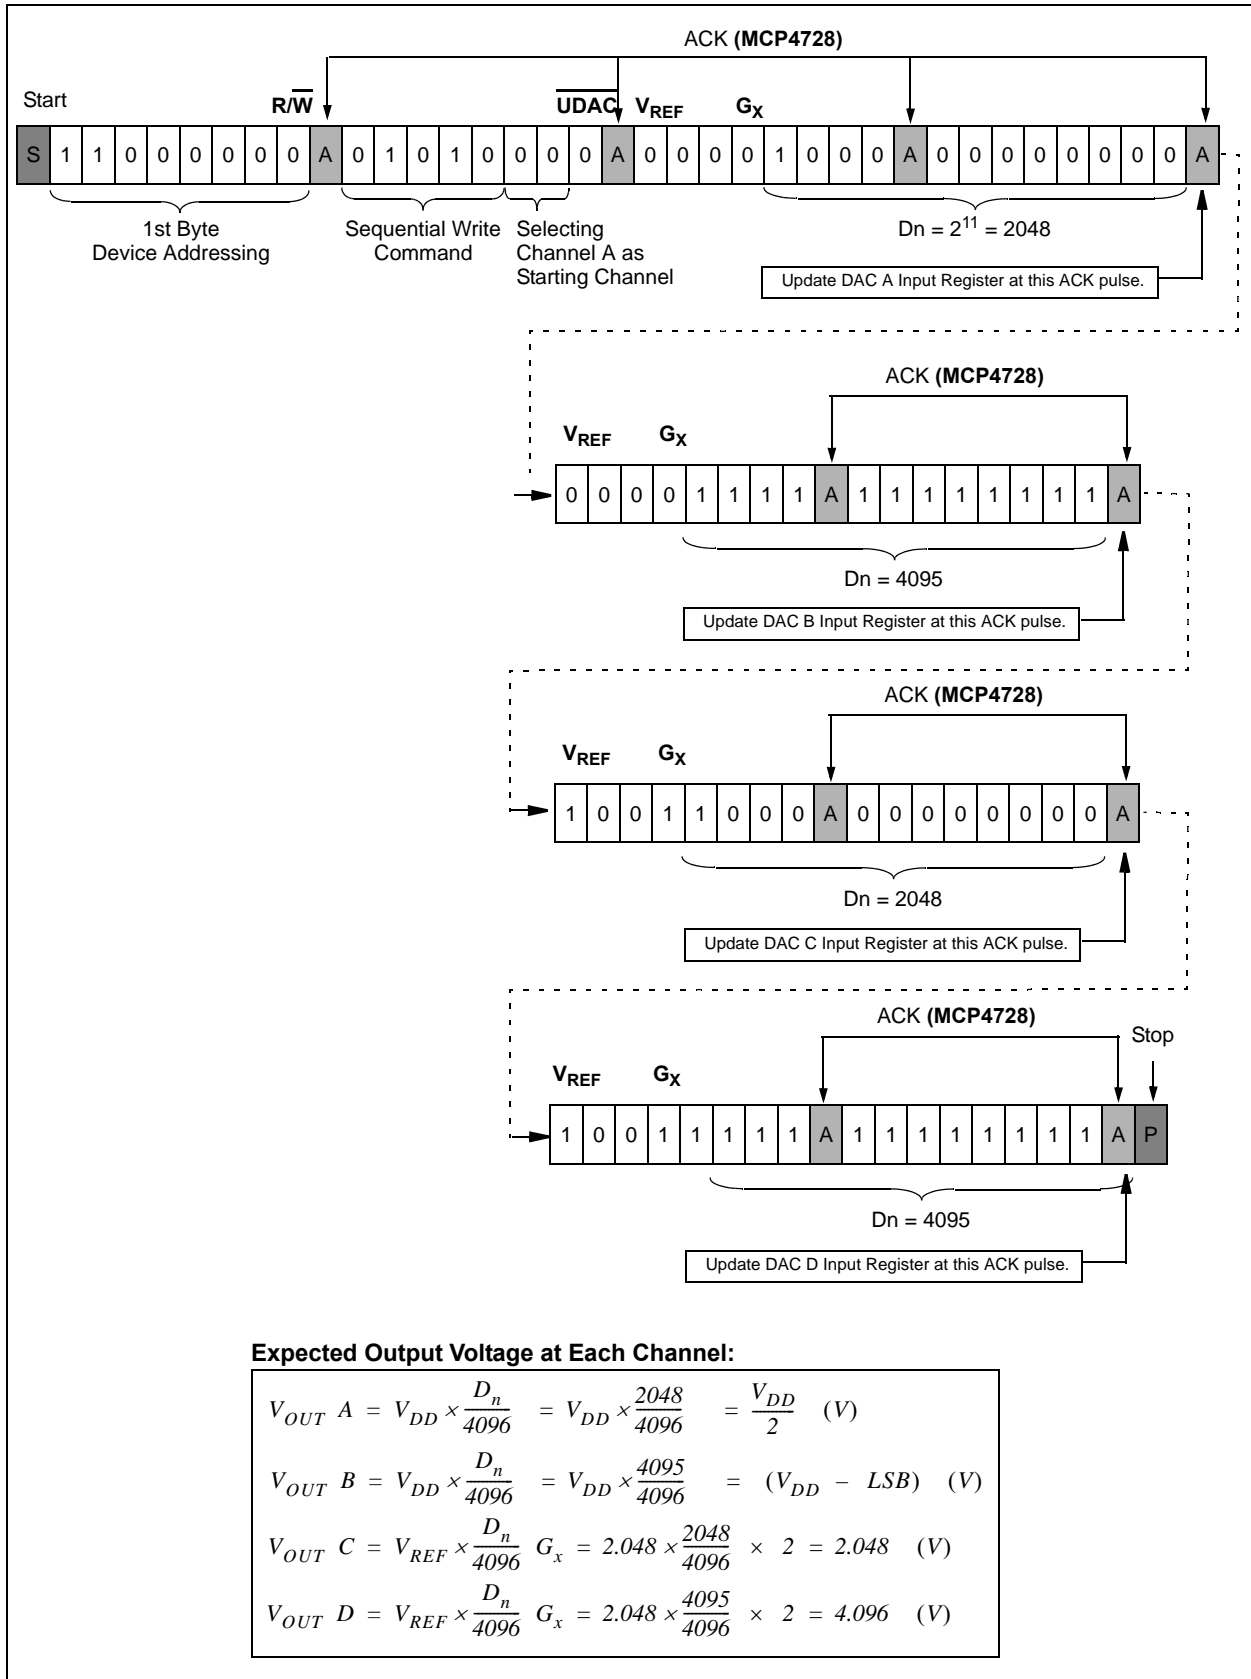
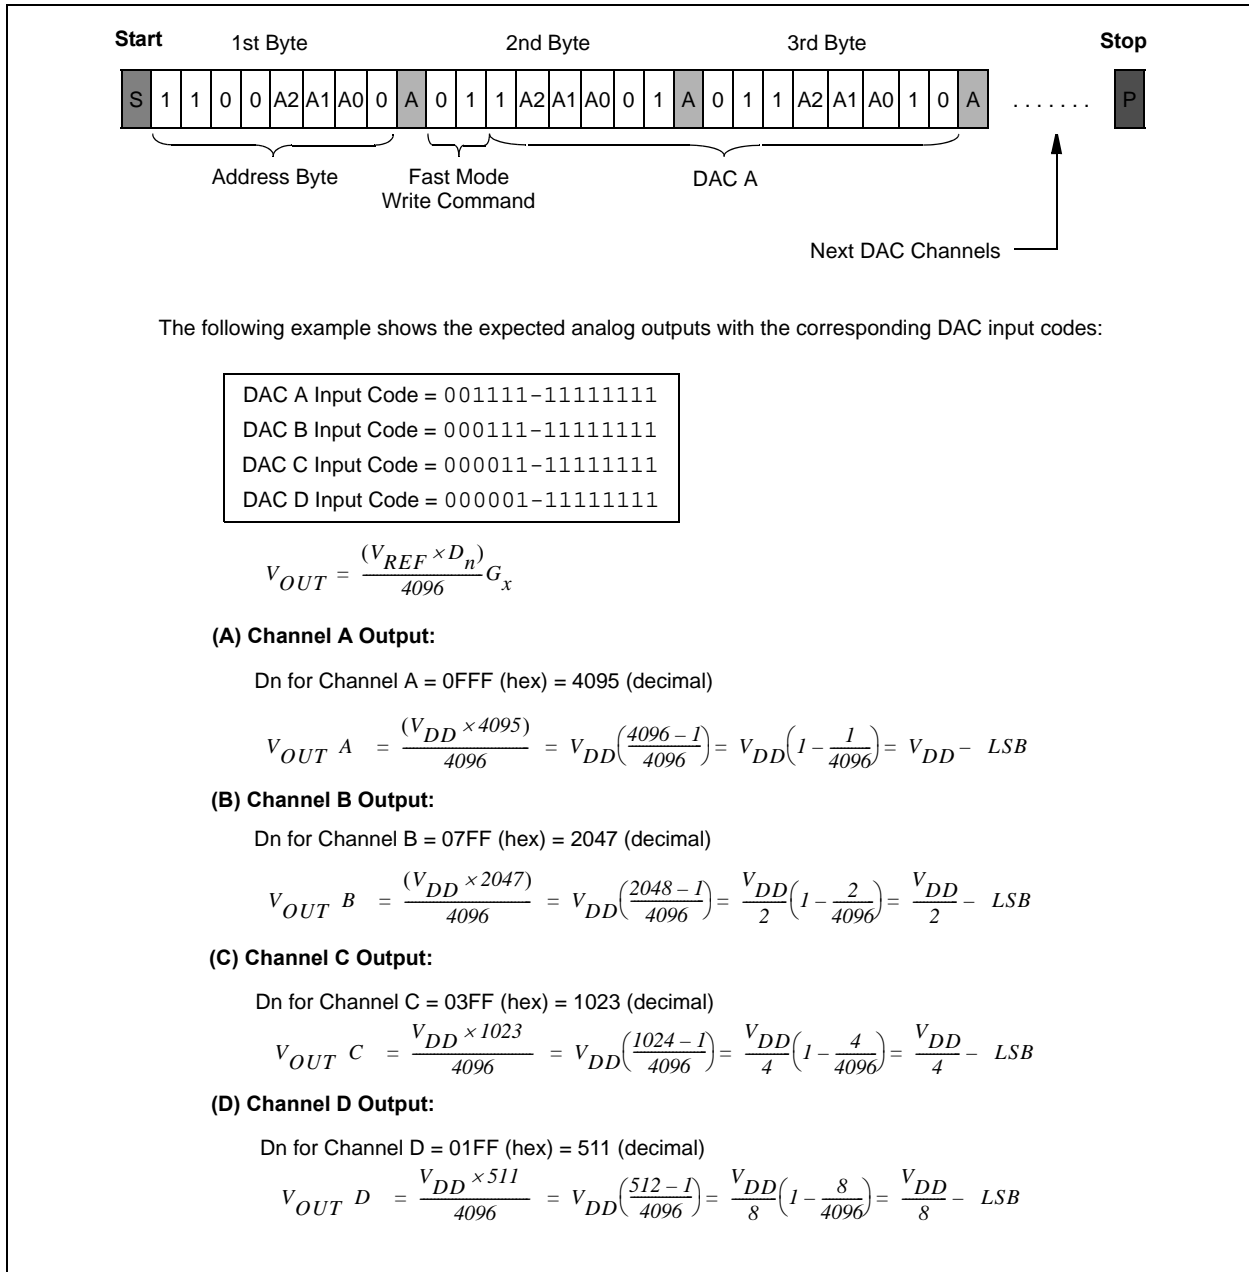

FIGURE 7-4: Sequential Write Command for Setting Test Points in Figure 7-3.
FIGURE 7-5: Example of Writing Fast Write Command for Various V_{OUT} . $V_{REF} = V_{DD}$ for all Channels.
Let us consider that the application requires different trip voltages (Trip 1 - Trip 4). Assuming the DAC output voltage requirements are given as shown in Table 7-1, examples of sending the Sequential Write and Fast Write commands are shown in Figure 7-4 and Figure 7-5.
1. Updated Figure 5-11 and Figure 7-4.